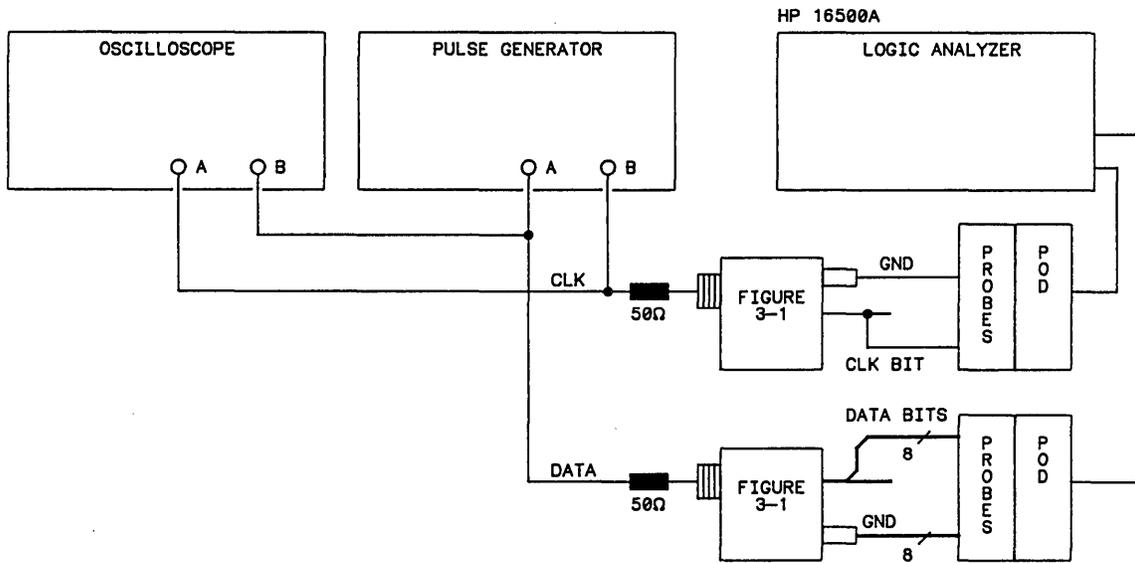

Figure 3-28. Setup for Clock, Qualifier, and Data Inputs Test 7
1. Connect the HP 16510A and test equipment as in figure 3-28 by connecting channels 0 - 7 of the pod under test to test connector.